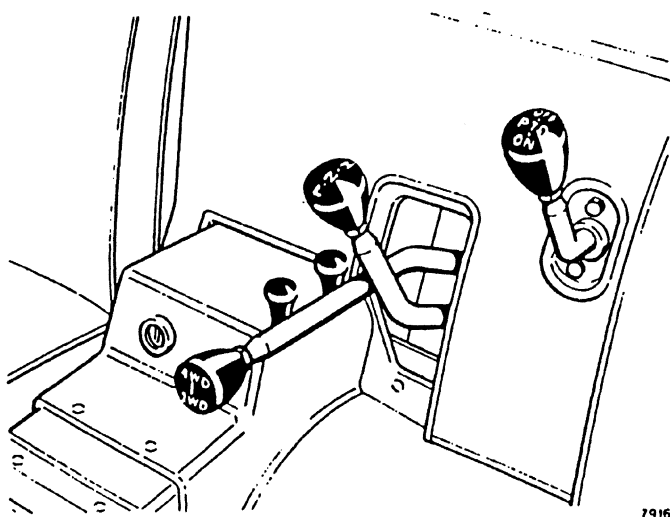

Fig 3 Transfer box controls
29. The transfer box operation is controlled by two levers and the operating positions are marked on the appropriate lever knobs (Fig 3).